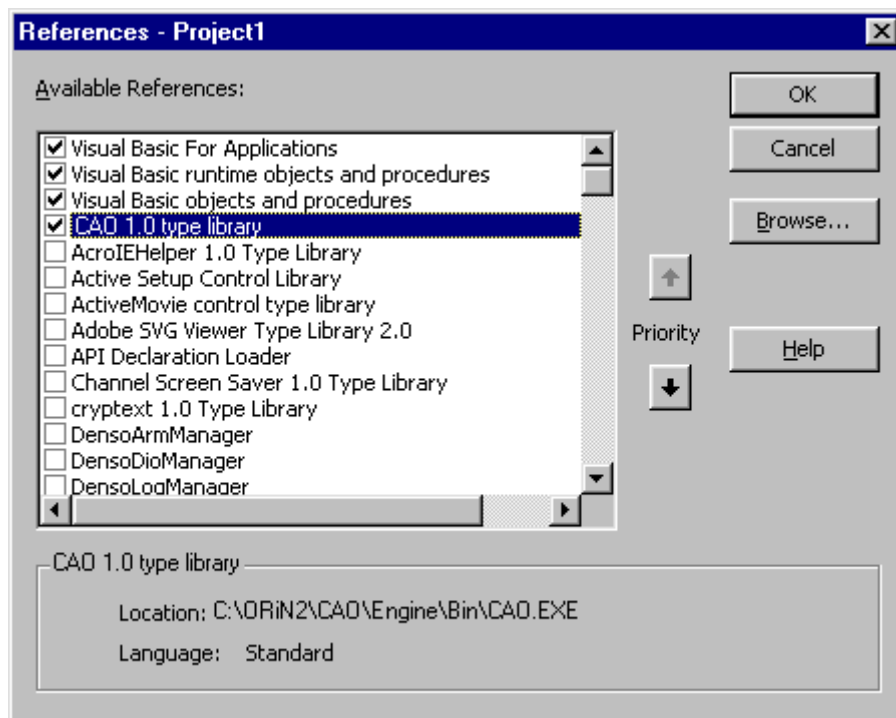

Figure2-2 Reference setting screen of VB
- (1) Select [Project]->[reference setting] in the menubar of VB6.
- (2) When the dialog is displayed as shown in Figure2-2, add the type library "CAO 1.0 type library".